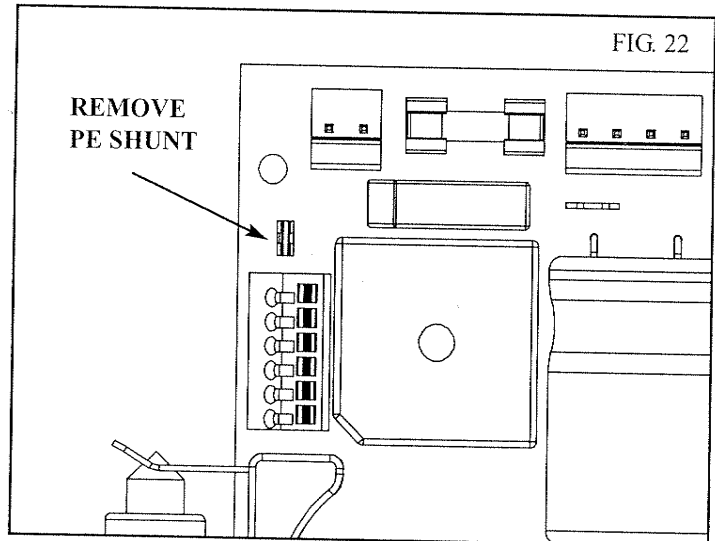
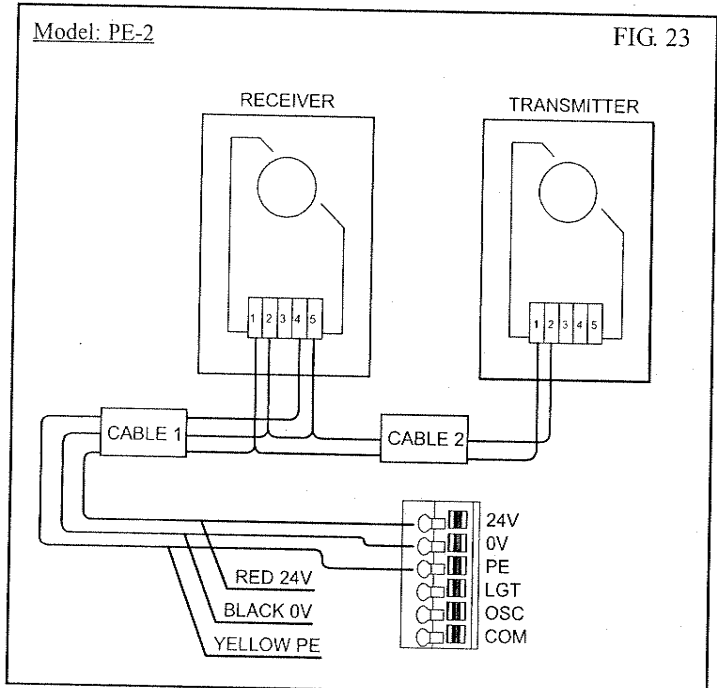

FIG. 22
FIG. 23
Locate the Photo Electric Beam (P.E.) (normally closed contact type) in a strategic location within doorway. We recommend 150mm above the floor level and as close as possible to the door opening, inside the garage. Remove shunt from P.E. connector (Fig. 22) and connect the wires from the P.E. wiring harness as per Fig. 23.
1. Press in and hold the Auto Close Time button (Fig. 22).